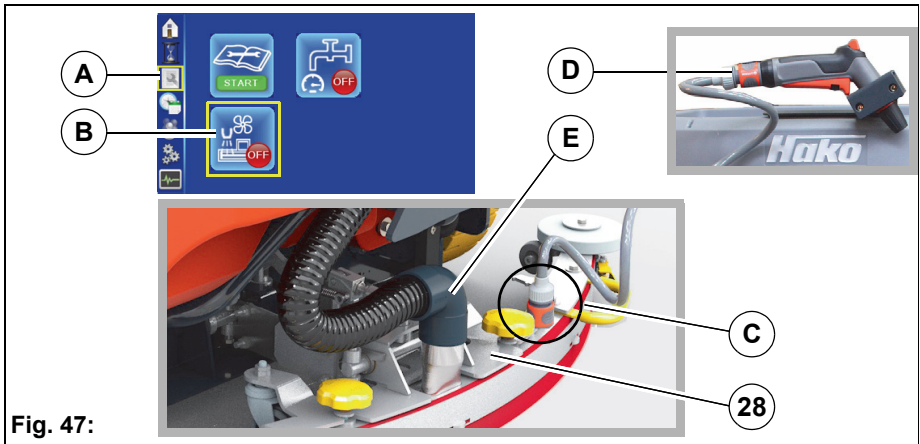

Fig. 47:
3. Pull off the suction hose **Fig. 47-E**.
2. In the sub-menu, call up menu item *Maintenance page Fig. 47-A*. Select soft key *Squeegee cleaning Fig. 47-B* with the turn-push knob and activate. The squeegee is lowered and the suction is switched on. The remaining squeegee cleaning time is displayed in 5 second intervals.
4. Connect hose to the connection of the squeegee **Fig. 47-C** using the 1/2" quick coupling, and to the water tap of the service connection.
4. Disconnect hose from the spray nozzle **Fig. 47-D** and attach to the squeegee connection **Fig. 47-C**.